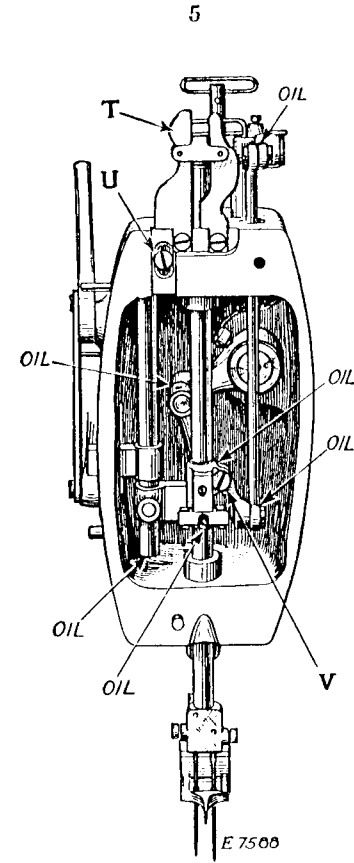

FIG. 4. OILING POINTS AND ADJUSTMENTS ON THE MACHINE
In case the needle bar is not set at the correct height, loosen the screw (V, Fig. 4, page 5) in the needle bar connecting link and move the needle bar up or down, as may be required, then tighten the screw (V).
The needle thread take-up stripper (T, Fig. 4, page 5) should be so adjusted that it pulls the thread off the looper without snap or tension. It can be raised or lowered, as may be required, after loosening the screw (U, Fig. 4) which holds it in position.